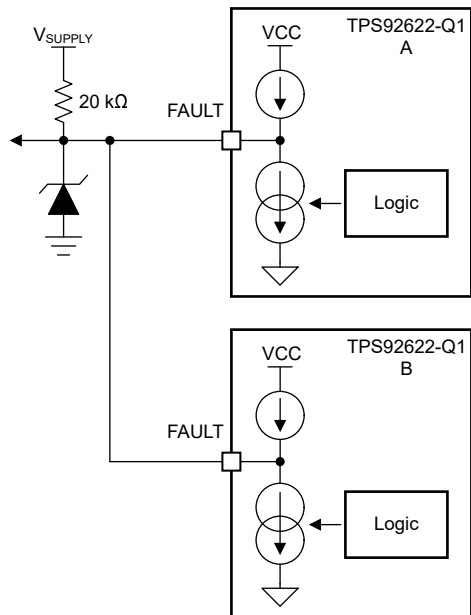
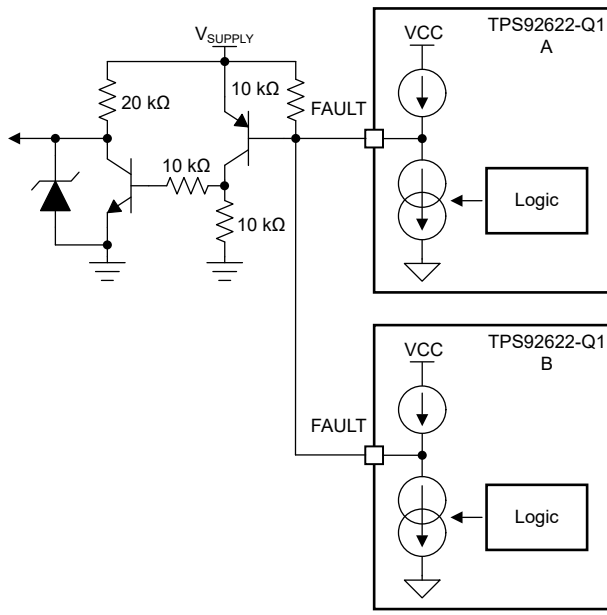

图 6-6. FAULT Bus for One-Fails-All-Fail Application
图 6-7. FAULT Bus for One-Fails-Others-On Application
Based on this feature, the TPS92622-Q1 device is able to construct a **FAULT** bus by tying **FAULT** pins from multiple TPS92622-Q1 devices to achieve one-fails-all-fail function as 图 6-6 showing. The lower side TPS92622-Q1 (B) detects any kind of LED fault and pulls low the **FAULT** pin. The low voltage on **FAULT** pin is detected by upper side TPS92622-Q1 (A) because the **FAULT** pins are connected of two devices. The upper side TPS92622-Q1 (A) turns off all output current for each channel as a result. If the **FAULT** pins of each TPS92622-Q1 are all connected to drive the base of an external PNP transistor as illustrated in 图 6-7, the one-fails – all-fail function is disabled and only the faulty channel device is turned off.